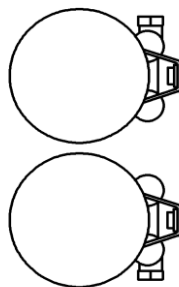

FIGURE 5
5. Remove the muffler assembly from the box and slide two supplied 27-61MSC clamps onto the muffler inlets, refer to Figure 5 for alignment. Do not install oxygen sensor at this time, as it will not clear the frame rail during installation of the muffler assembly.
11. To install the front heatshield, first slide the rear portion of the heatshield over the muffler, continue to slowly slide it forward pushing the front of the shield gently into place between the frame and motor (Hint: Spread the hose clamps apart slightly to make it easier to slide them over the muffler assembly and headpipes). Make sure the muffler clamps don't interfere with the heatshields and are aligned as shown in Figure 5. Snug the heatshield clamps but **DO NOT TIGHTEN**.